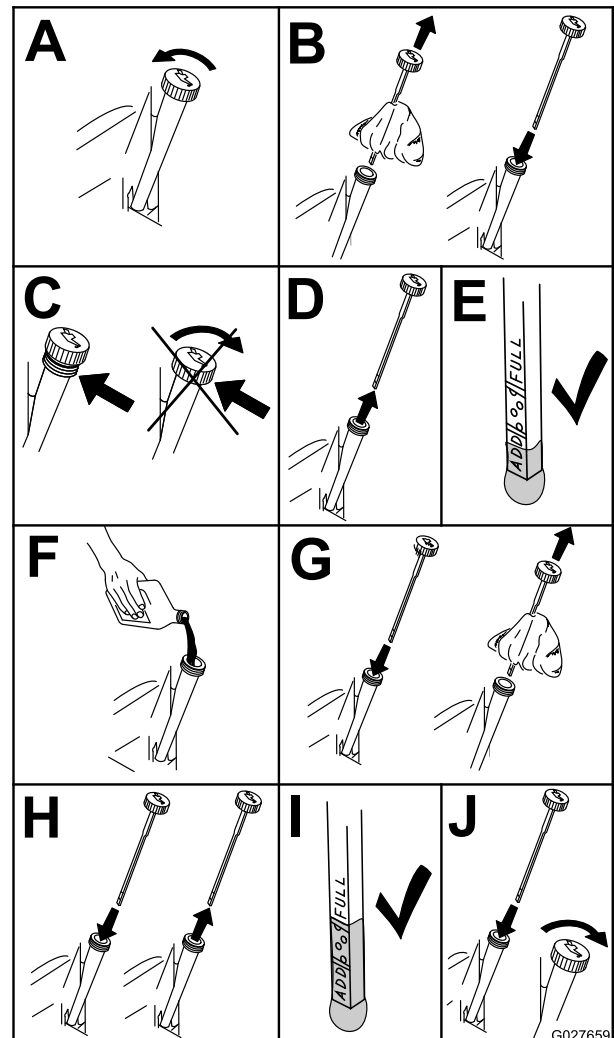

Figure 56
2. Shut off the engine, remove the key, and wait for all moving parts to stop before leaving the operating position (Figure 56).